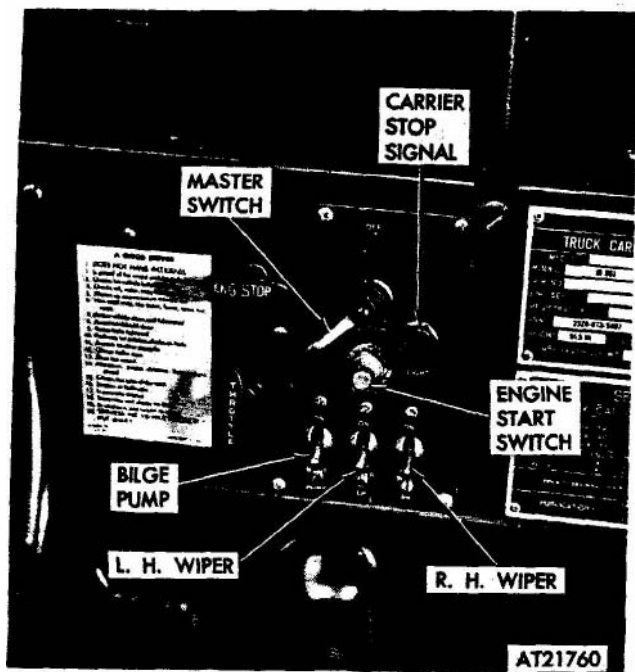

Figure 2-108. Switch panel, cowL
(1) Remove switch lever from master switch by removing screw and lock washer (fig 2-108).
(2) Remove master switch from switch control panel by removing hex nut and lock washer, push master switch through rear of switch panel.
(3) Disconnect two electrical leads from switch. Remove switch.
(1) Apply a light coat of grease (**MIL-S-8660**) to rubber surfaces of male connectors. Connect leads to master switch (fig 2-108).
(2) Push master switch through from rear of switch panel and attach to panel using nut and lock washer.
(3) Attach lever to master switch with screw and lock washer (fig 2-108).
(4) Check switch operation.
(1) Unscrew press-to-test cap from stop signal light (fig 2-108).
(2) Remove nut securing top signal light assembly to switch panel and push stop light assembly **through** rear of switch panel.
(3) Unsolder leads from stop signal light assembly terminals.
(2) Remove lamp from stop signal light assembly.
(1) Remove engine start switch from switch panel by removing nut from switch (fig 2-108).
(2) Push switch through to rear of switch panel.
(3) Remove two connectors from switch and remove switch.
(1) Remove defective switch from switch panel by removing two screws (fig 2-108).
(2) Push switch through switch panel and remove electrical connectors from switch. Remove switch.
(2) Insert switch through switch panel and secure with two mounting screws (fig 2-108)
(3) Check operation of switch.